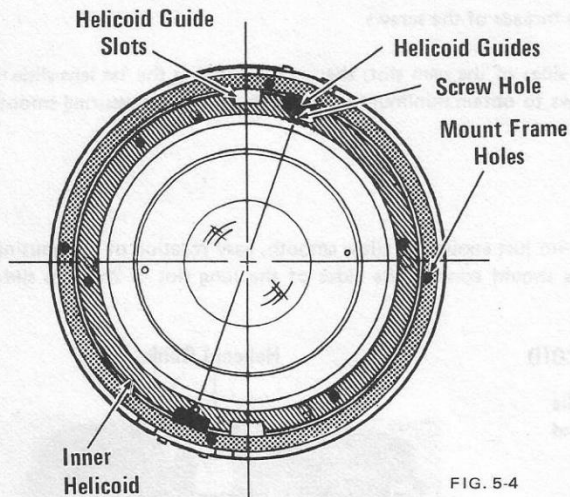
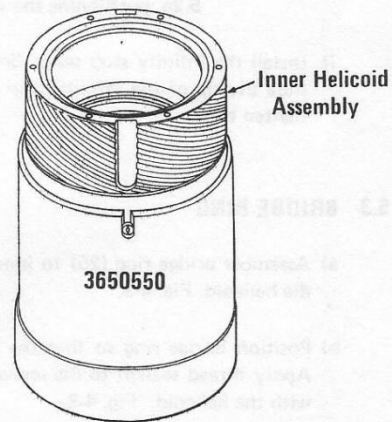

FIG. 5-4
FIG. 5-3
- e) Place the inner helicoid assembly on Tool No. 3650550 as shown in Fig. 5-3. Hold the outer and middle helicoids so that the alignment in 5.2d does not change. Set the middle helicoid down over the tool so that the center of the helicoid guides align with the holes in the helicoid nearest the helicoid guide slots as shown in Fig. 5-4.